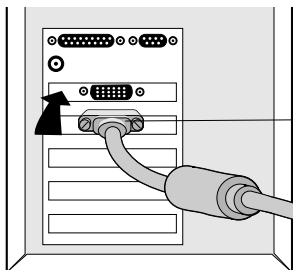

Figure A.1
3. Connect the 15-pin mini D-SUB of the appropriate signal cable to the connector of the display card in your computer. Tighten all screws (Figure A.1).